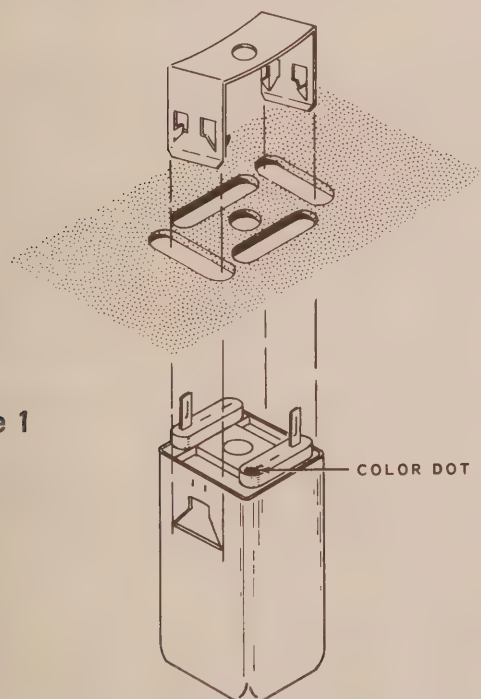

Figure 1
- (✓) Install the high frequency coil (#40-748) at L2 as shown in Figure 1. Push the mounting clip all the way until the teeth lock into the sides of the can.
- () Install the coil selected for L2 as shown in Figure 1.
- () Connect a .02 μ fd disc capacitor from lug 3 of terminal strip L (S-2) to lug 2 of coil L2 (NS).
- () Connect a 2" hookup wire from lug 2 of coil L2 (NS) to lug 1 of terminal strip B (S-3).